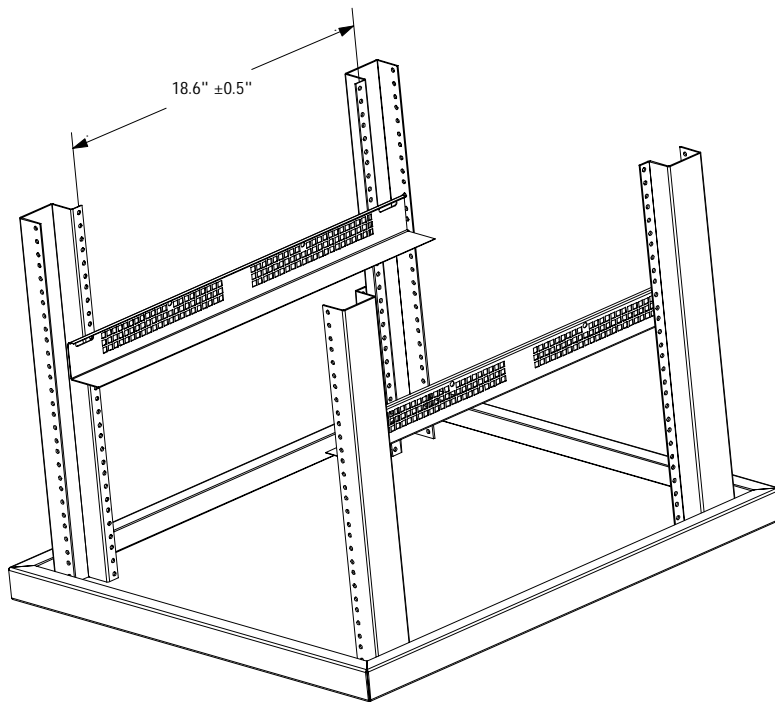

Figure 3 RM-XTR Rack Rails
1. Ensure that your rack resembles the rack shown in Figure 3, and has inner holes within the specified dimensions.